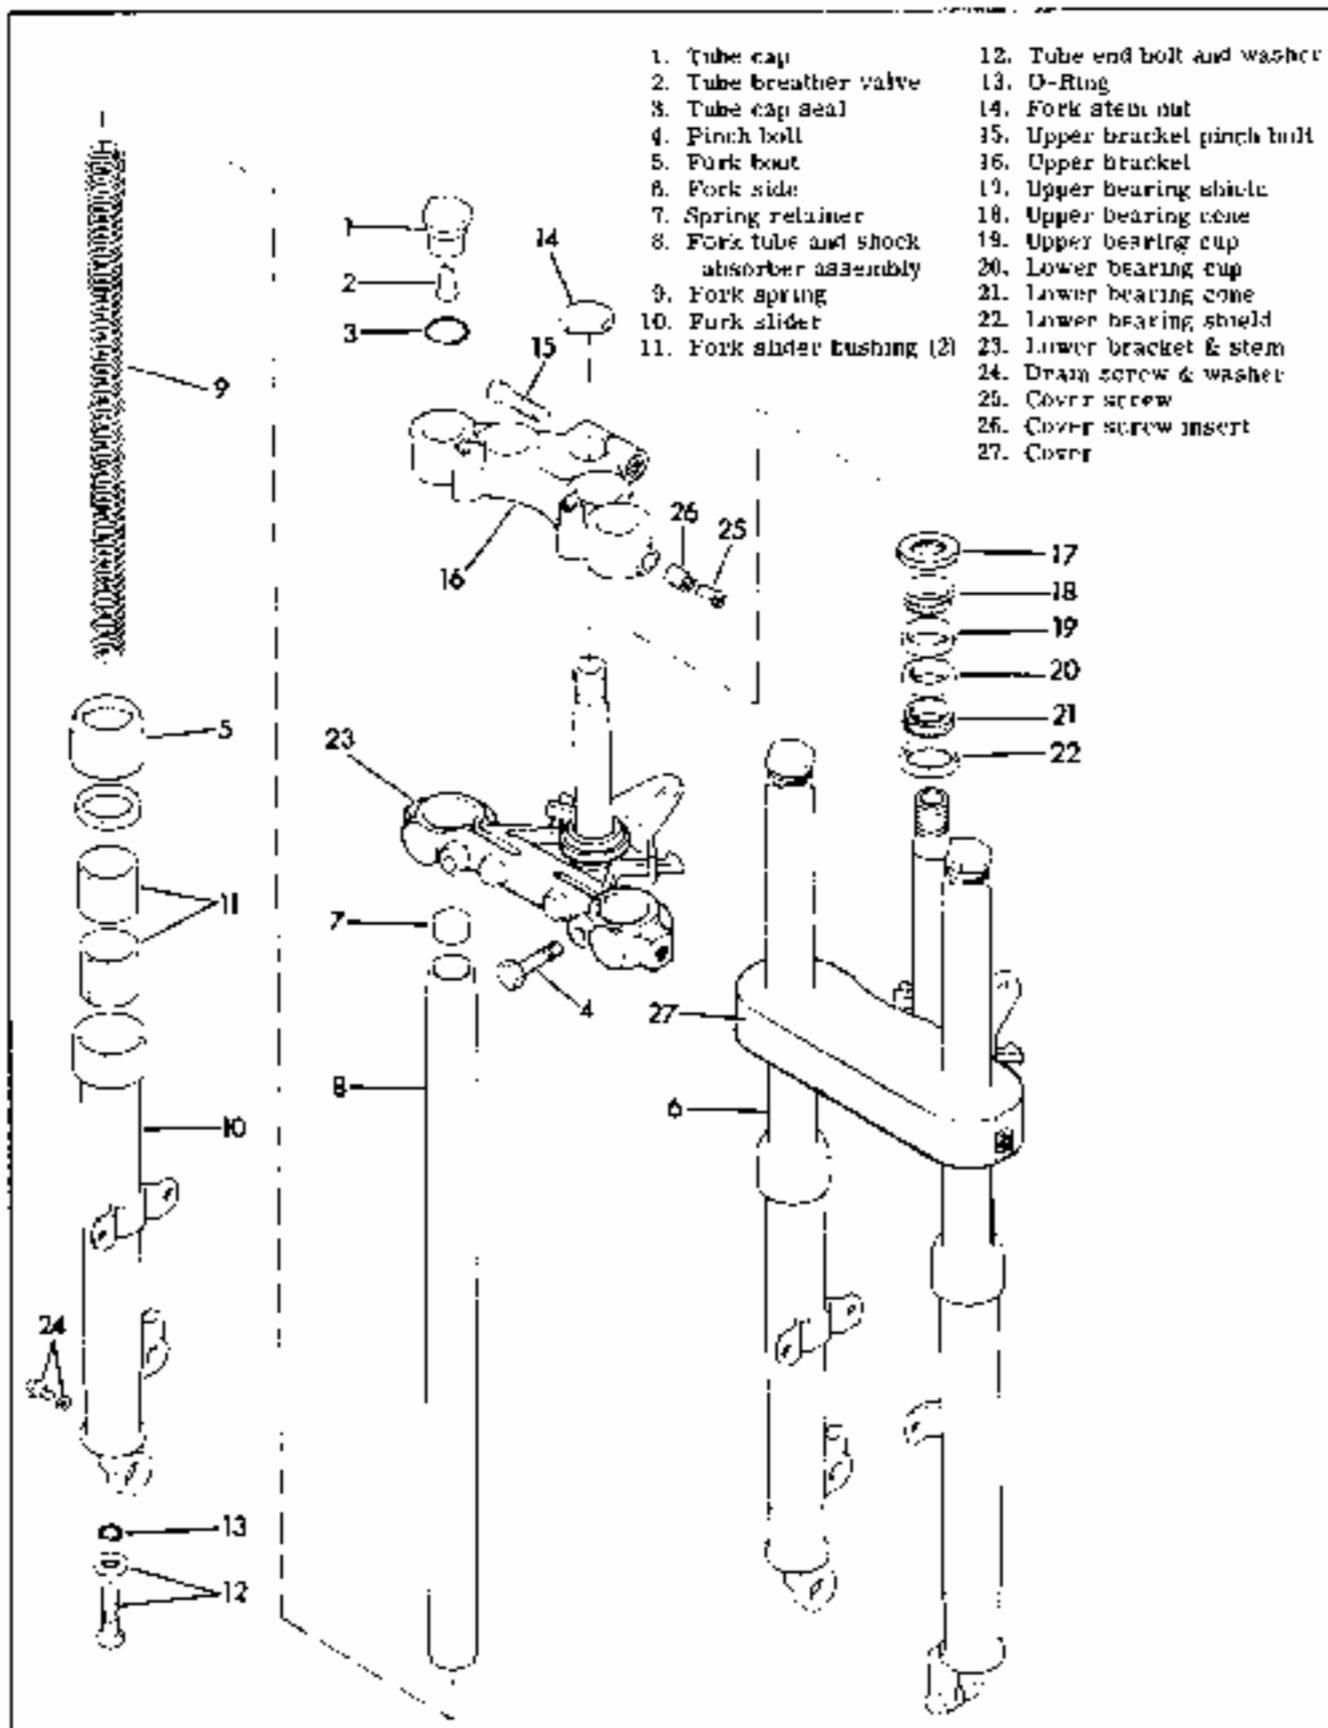

Figure 2-34C. Super Glide Front Fork - Exploded View
To drain fork sides, remove fork tube cap as described in 'Disassembling Front Fork'. Remove drain plug (24, Figure 2-34C) from lower end of fork slider. Loosen tube end bolt (12, Figure 2-34C) several turns. With a screwdriver move shock absorber up and down to loosen any sediment in bottom of fork slider, so oil will run free from drain.
INSPECTION PROCEDURE (Figure 2-34C)
See Figure 2-34C. Examine fork tube (8) for scoring and badly worn sliding surface. Inspect fork slider bushings (11) in fork slider (10) for wear and scoring. Insert tube (8) in fork slider (10), and work up and down. If tube has appreciable play in slider, replace slider bushings. See "Removing Fork Slider Bushings."
REPLACING BREATHER VALVE (Figure 2-34C)
DISASSEMBLING FRONT FORK (Figure 2-34C)
REMOVING FORK STEM AND BRACKET ASSEMBLY FROM STEERING HEAD (Figure 2-34C)
To replace bearing races (19 and 20, Figure 2-34C), knock head cup from steering head using a suitable drift. Press new bearing race in new head cup and then press assembly into frame head. If you wish to use old head cups, holes must be drilled in back side of cup so that race can be driven out by using small diameter drift or by some other improvised means.
ASSEMBLING FRONT FORK (Figure 2-34C)
INSTALLING STEM AND BRACKET ASSEMBLY, FORK SIDES AND ADJUSTING STEERING REARINGS (Figure 2-34C)